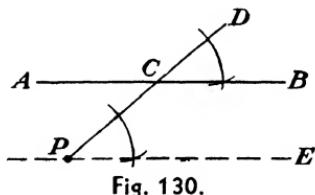

Fig. 130.
- Draw any line PD through P cutting line AB at C (see Fig. 130).